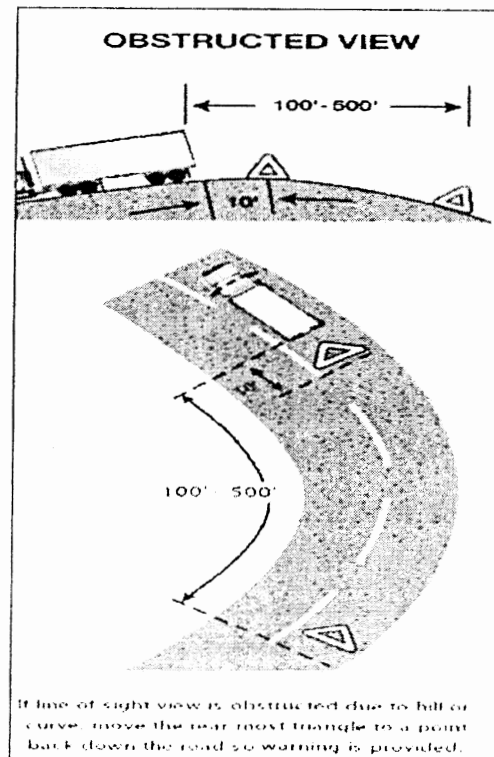

Figure 2.10
- Back beyond any hill, curve, or other obstruction that prevents other drivers from seeing the vehicle within 500 feet. If line of sight view is obstructed due to hill or curve, move the rear-most triangle to a point back down the road so warning is provided. *See Figure 2.10.*